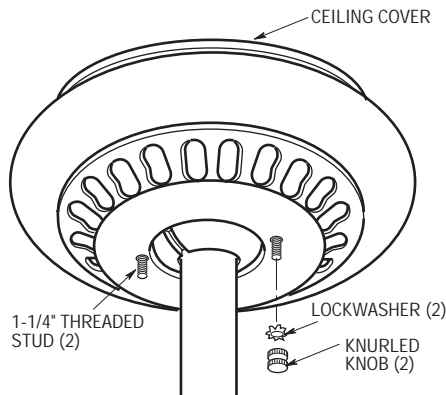

Figure 16
- 5. Lift the ceiling cover up to the threaded studs and turn until the studs protrude through the holes in the ceiling cover (Figure 16).
- 6. Secure the ceiling cover in place by sliding lockwashers (supplied) over the threaded studs and installing the two knurled knobs (supplied) (Figure 16). Tighten the knurled knobs securely until the ceiling cover fits snugly against the ceiling.